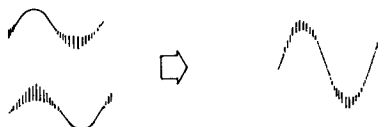

Fig. 3
5. Receive 90MHz signal from the FM signal generator. The antenna input should be set to an optimal level where adjustment can be carried out satisfactorily with the appropriate amount of noise contained in the signal wave. Adjust FM IFT L104 so that the waveform is largest and noise is contained uniformly on the top and bottom of the waveform (Fig. 3).